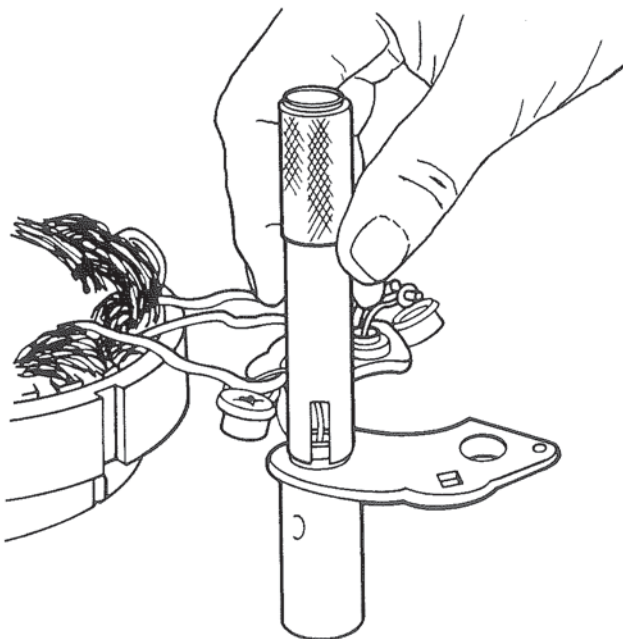

Figure 36. Diode Installation.
3. Install rectifiers into head sink using special tools. Figure 36. Reconnect stator leads to rectifiers by using arbor press. DO NOT HAMMER!